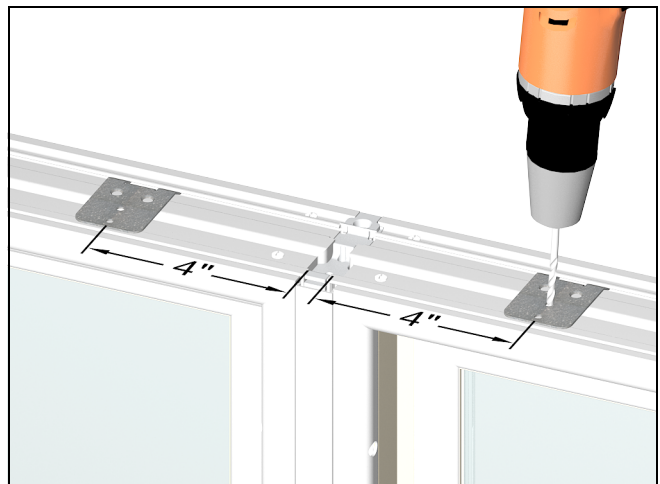

Figure 13
4. Install through jamb installation brackets on each side of mull. Space brackets 4" (102) from the corners of the mull and use the center hole on the bracket as a guide to drill 3/16"(5) hole in the frame. Fasten to frame with #7 x 5/8"(16) screws. See Figure 13.